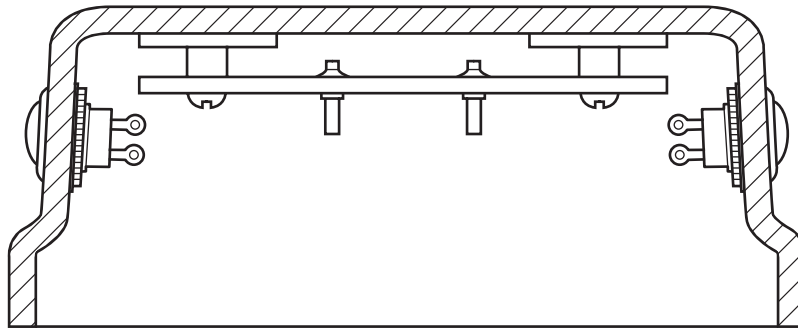

Fig. 12
(c) Fig. 12 shows a plastics casing for the circuit for the flashing light.
- (i) Add sketches and labels to Fig. 12 to show how a base can be fitted to the casing. [4]